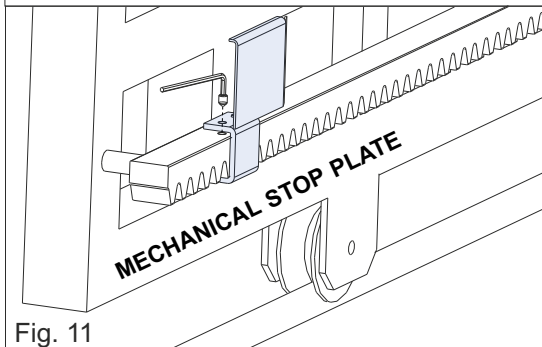
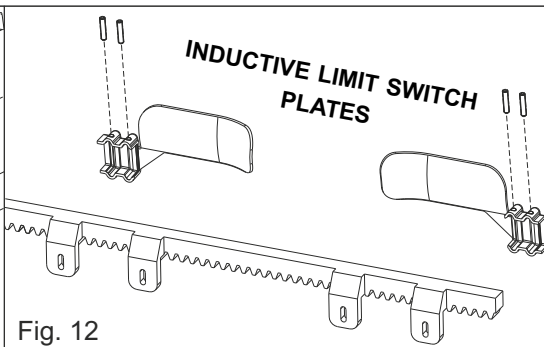
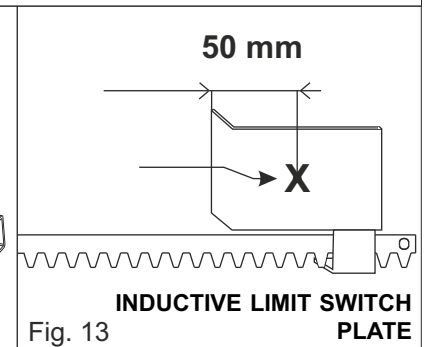
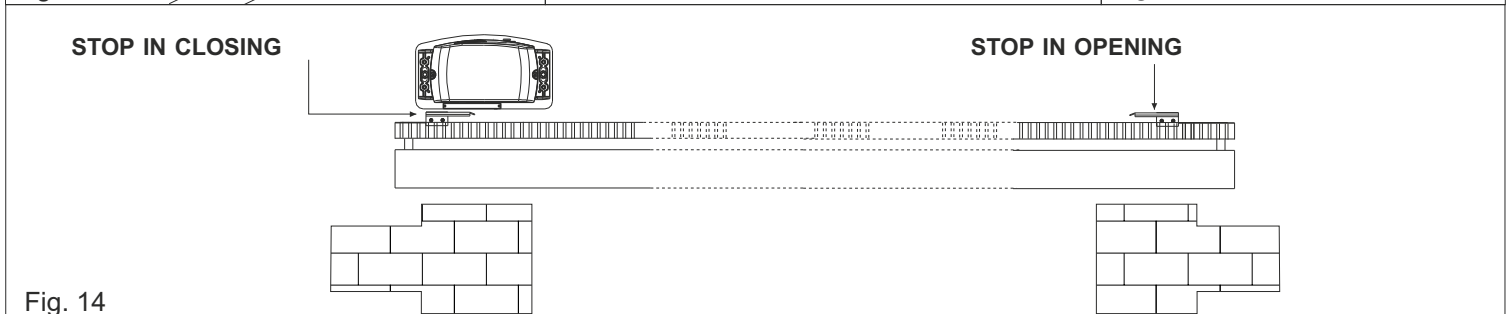

Fig. 11
Fig. 12
Fig. 13
Fig. 14
- **MECHANICAL STOP:** place the plate (Fig. 11) on the rack according to the desired gate stop position (Fig. 14); fix the plate on the rack using the supplied screws.
- **INDUCTIVE LIMIT SWITCH:** place the plate (Fig. 12) on the rack according to the desired gate stop position (Fig. 14); fix the plate on the rack using the supplied screws. Bring the inductive limit switch opening plate (indicated by an arrow on the limit switch) in correspondence with point «X» of the plate on the rack (50 mm from the folded side of the plate - Fig. 13).
- **INDUCTIVE LIMIT SWITCH:** place the plate (Fig. 12) on the rack according to the desired gate stop position (Fig. 14); fix the plate on the rack using the supplied screws. Bring the inductive limit switch closing plate (indicated by an arrow on the limit switch) in correspondence with point «X» of the plate on the rack (50 mm from the folded side of the plate - Fig. 13).